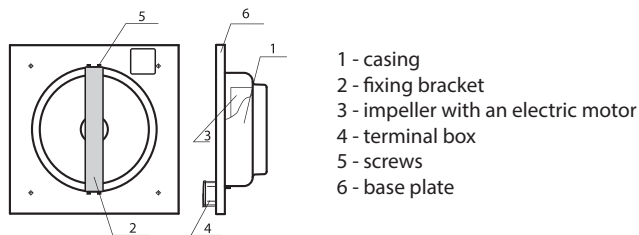

Fig. 9
**The VC-PK fan** (Fig. 9) consists of the casing 1 with the electric motor and impeller 3 attached to the fixing bracket 2 inside.
VC-PK (Fig. 9)